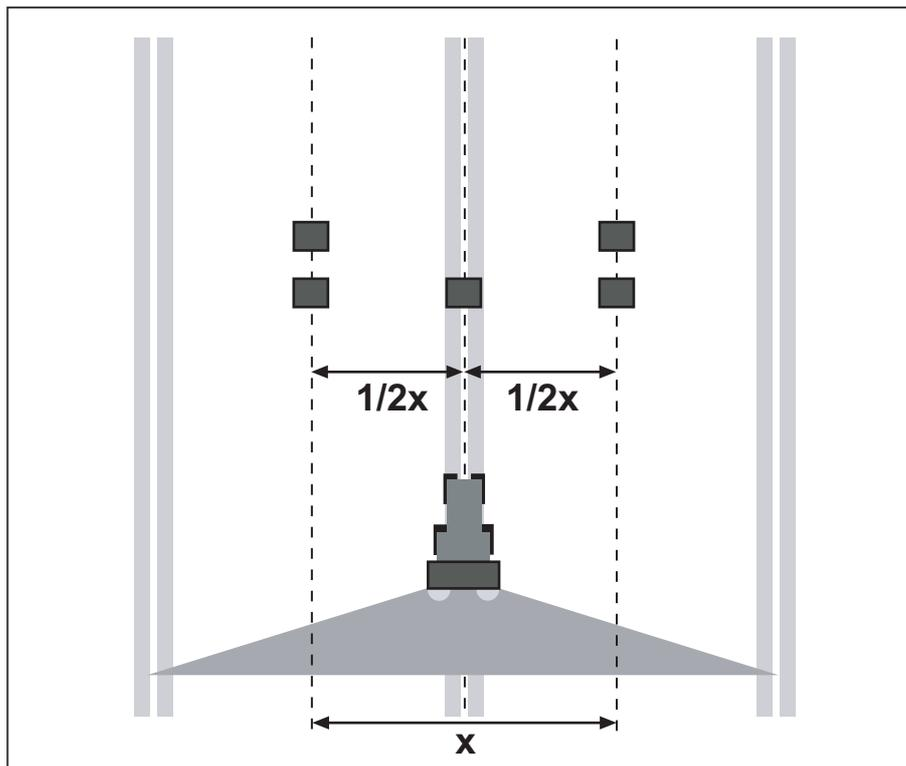

Figure 7.24: Layout for one pass
- Place two trays in line as shown in the diagram (distance 1 m) in the overlap zones (between the tracks) and one tray in the track (corresponding to figure 7.24).